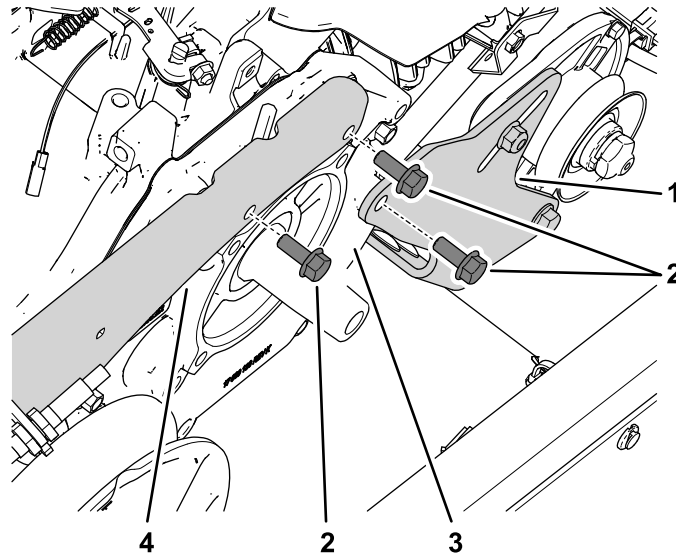

Figure 4
8. Remove the 2 flange-head bolts that secure the spanner bar to the engine (Figure 4).
9. Remove the flange-head bolt that secures the starter/generator bracket to the engine (Figure 4).